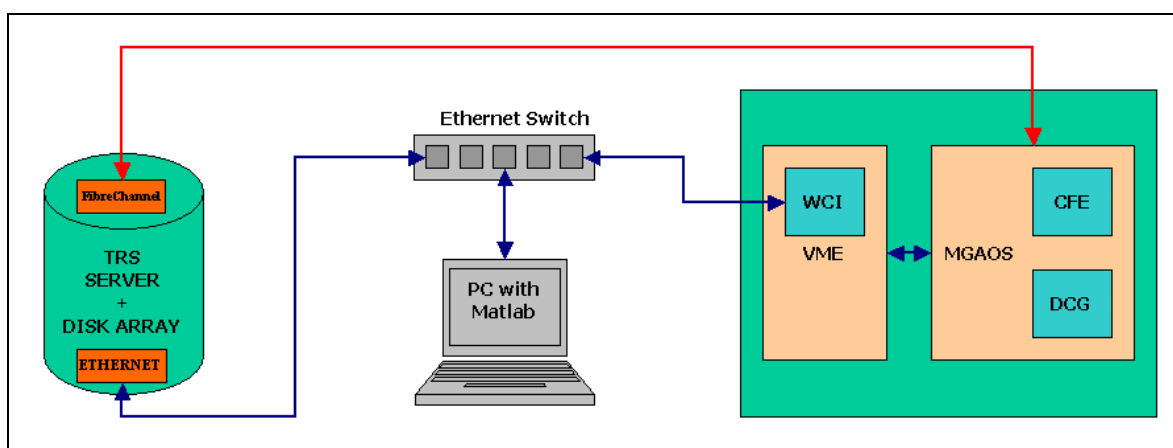

Figure 13 – Test setup. Blocks in cyan represent dedicated components.
The test environment is represented in Figure 13. It is largely based on standard WFC components: an additional workstation (PC), connected via Ethernet to both the TRS server and the RTC (VME crate) is the only hardware component added to the system.